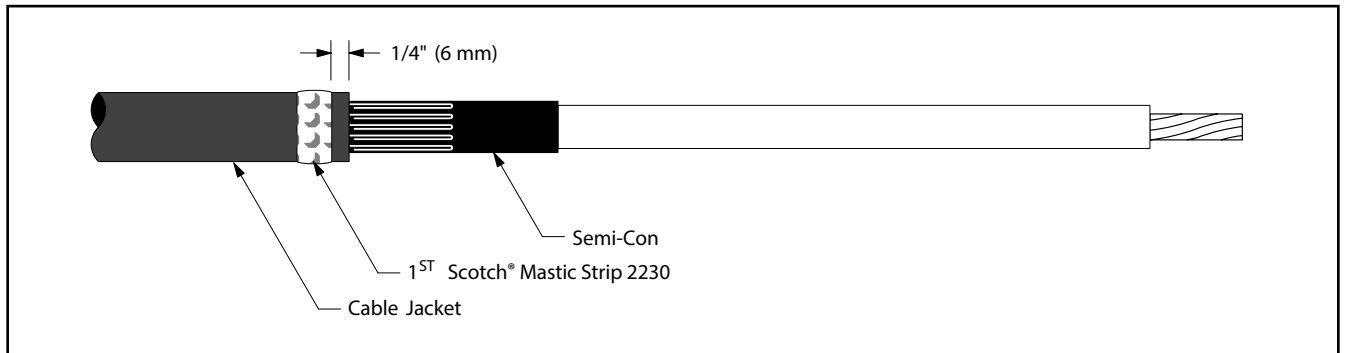

Figure 10
- 7.1 Select a Scotch® Mastic Strip 2230 from kit and remove white release liners. Using light tension, apply a **SINGLE WRAP** of mastic around the cable jacket 1/4" (6 mm) from cut edge (*Figure 10*). Cut off excess.